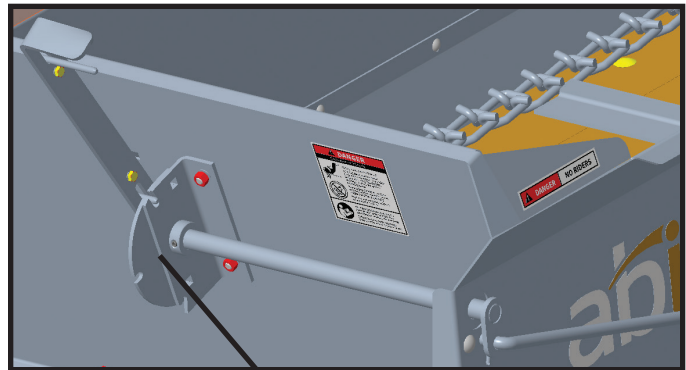
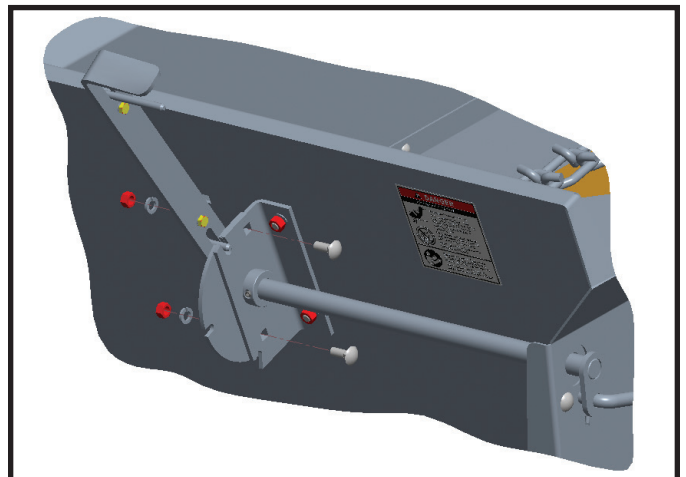

Figure 4. SLIDE NOTCHED PLATE (PLATE WITH 2 NOTCHES)
Figure 5.
4. The notched plate that mounts to the Beater Drive Lever (left side) has 2 notches. The plate slides in between the handle and mounting bracket (as shown in **Figure 4**). Line up square holes in plate with square holes in mounting bracket (as shown in **Figure 5**). Use (2) 3/8-16 x 1" long carriage bolts along with 3/8" split washers and 3/8-16 nuts (hardware supplied). Tighten using a 9/16" socket.